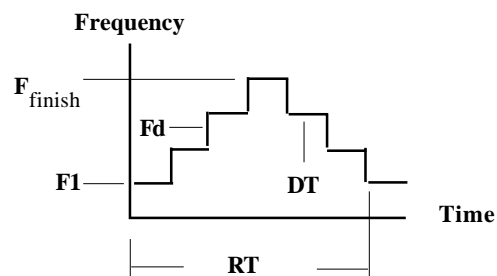

Figure 1: Triangle Waveform (Mode 2)
The triangle waveform will start immediately. This waveform will be repeated continuously until a new command(s) is sent. See Figure 1 for a visual representation of the waveform.
In Figure 1 the following equations apply:
4.2.3.2 Triangle (Mode 2) Example. Assume your desired settings are F1 = 1 MHz, F2 = 51 MHz and RT = 2 Milliseconds and assume you are using the internal clock with Kp = 10. Also, note that the SOF8 program sets Td = 0 in mode 2. This is an arbitrary setting to simplify the computations. Then, using the equations from Figure 1 we get: